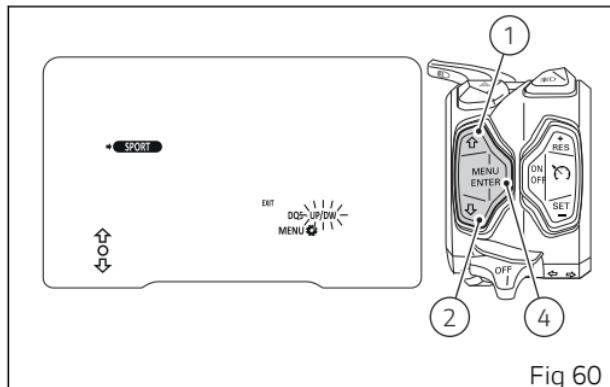

Fig 60
When entering the function, the DQS value starts flashing (Fig 60). Use buttons (1) and (2) to set required value, which can be "DQS - UP/DW" or "DQS -" (OFF), i.e. DQS disabled. To confirm, press the button (4).